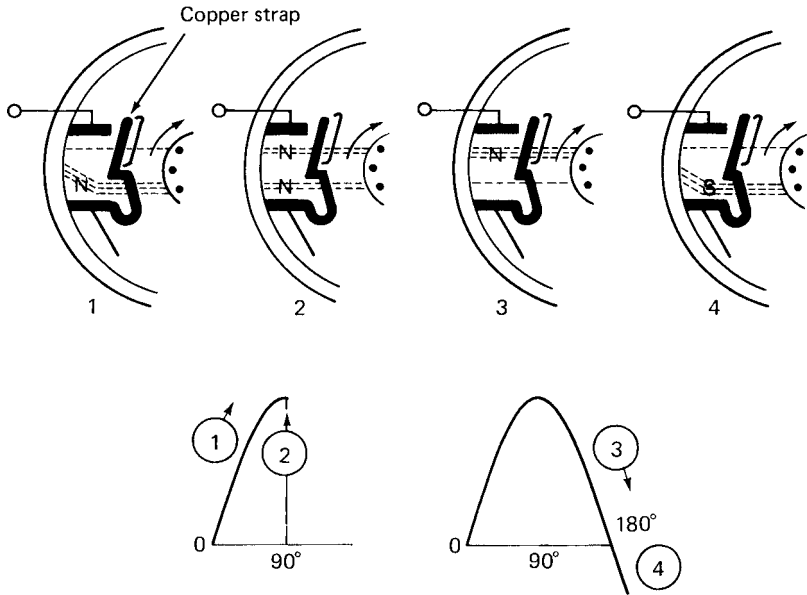

Figure 12-6 Shaded poles used in shaded-pole ac motors.
Portions of the pole piece surfaces are surrounded by a copper strap called a shading coil. The strap causes the field to move back and forth across the face of the pole piece. In Fig. 12-6, a numbered sequence and points on the magnetization curve are shown. As the alternating stator field starts increasing from zero (1), the lines of force expand across the face of the pole piece and cut through the strap. A voltage is induced in the strap. The current that results generates a field that opposes the cutting action (and decreases the strength) of the main field. This action causes certain actions: As the field increases from zero to a maximum of 90° , a large portion of the magnetic lines of force is concentrated in the unshaded portion of the pole (1). At 90° the field reaches its maximum value. Since the lines of force have stopped expanding, no emf is induced in the strap, and no opposite